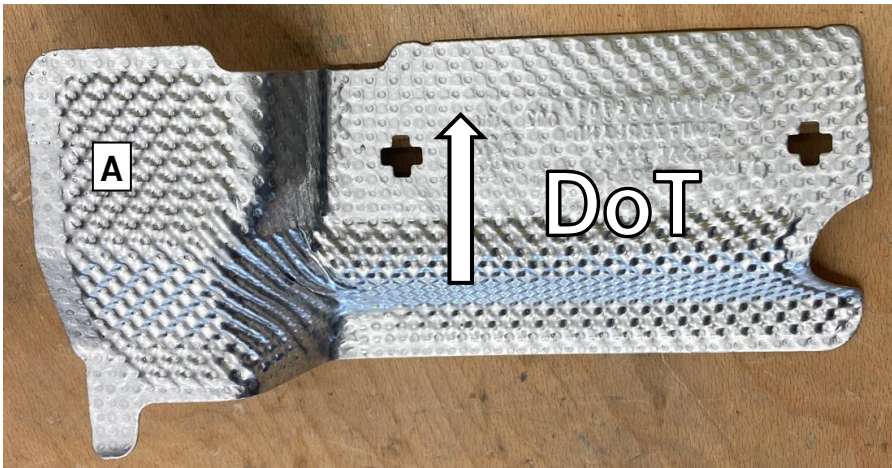
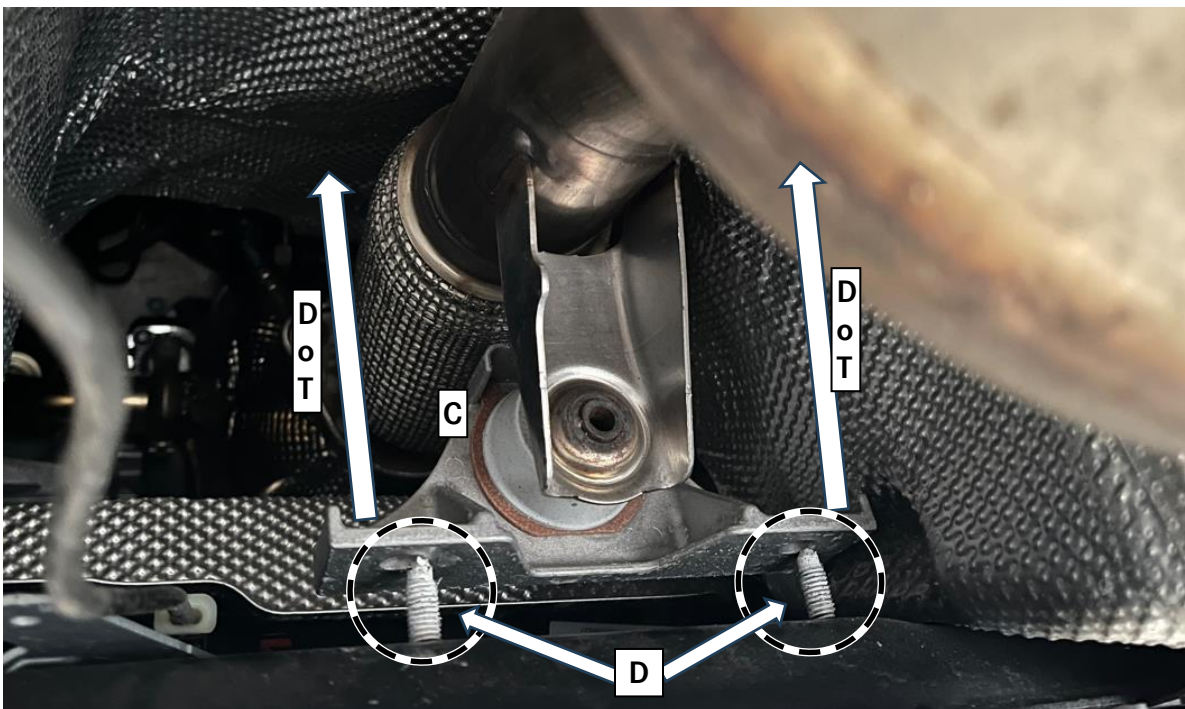

Figure 1 – DoT = Direction of travel (installation position)
Figure 3
Retrofitting heat shield (Figure 1, A) onto the exhaust system integral carrier.
3. Gently lift the exhaust system with holder (Figure 3, C) in the direction of travel.
i Only lift far enough (Figure 3, DoT) so the heat shield (Figure 1, A) can slide over the integral carrier studs (Figure 3, D). Otherwise, there is a risk of damaging the exhaust system!